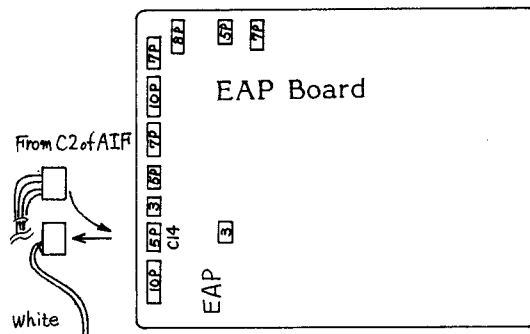

Fig. 7
18. Now, connect the loose end of the 5 conductor cable connected to C2 on the AIF circuit board in step #15 to connector C14 of the EAP circuit board (see figure 7).
19. Shift the 3 pin connector from C15 to C16 on the EAP circuit board (see figure 7).